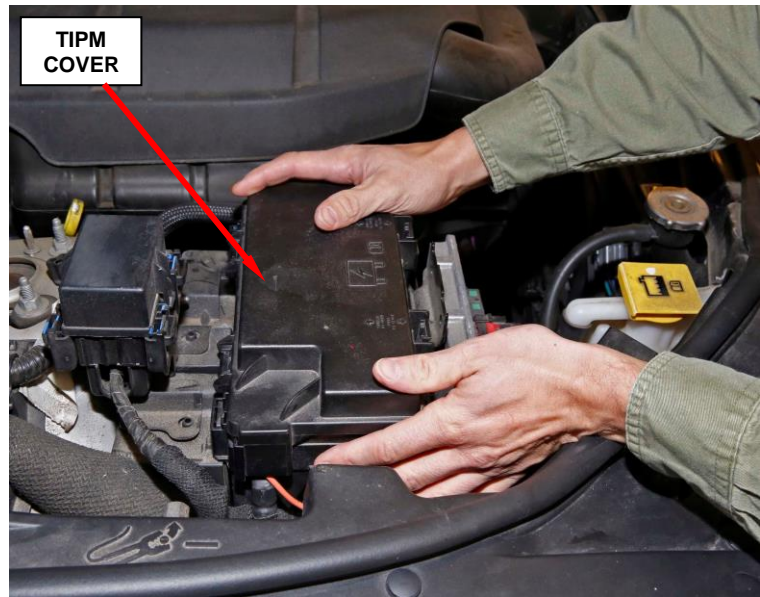

Figure 26 – Install TIPM Cover
36. Carefully install the TIPM access cover (Figure 26).